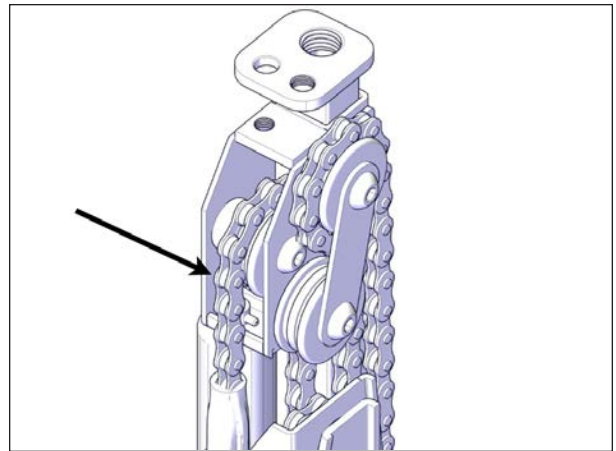

FIGURE 114: JACK CHAINS
8. Inspect the chains for signs of deterioration. If this is the case, please call your local Covana dealer immediately, see Figure 114.